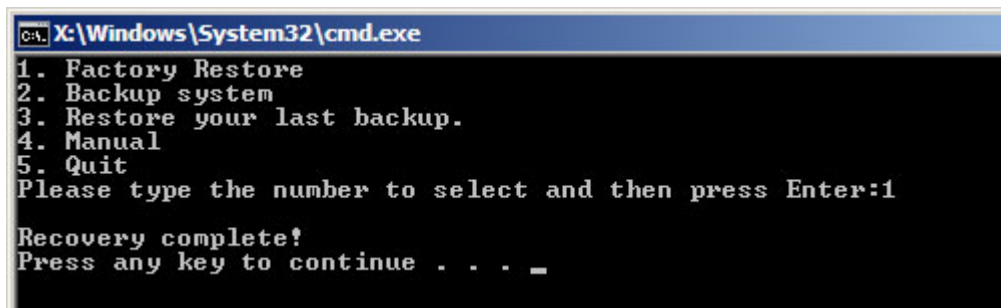

Figure C-25: Recovery Complete Window
Step 3: The screen is shown as in **Figure C-25** when completed. Press any key to reboot the system.
Step 3: The screen is shown as in **Figure C-25** when system backup is completed.
Step 3: The screen is shown as in **Figure C-25** when backup recovery is completed.